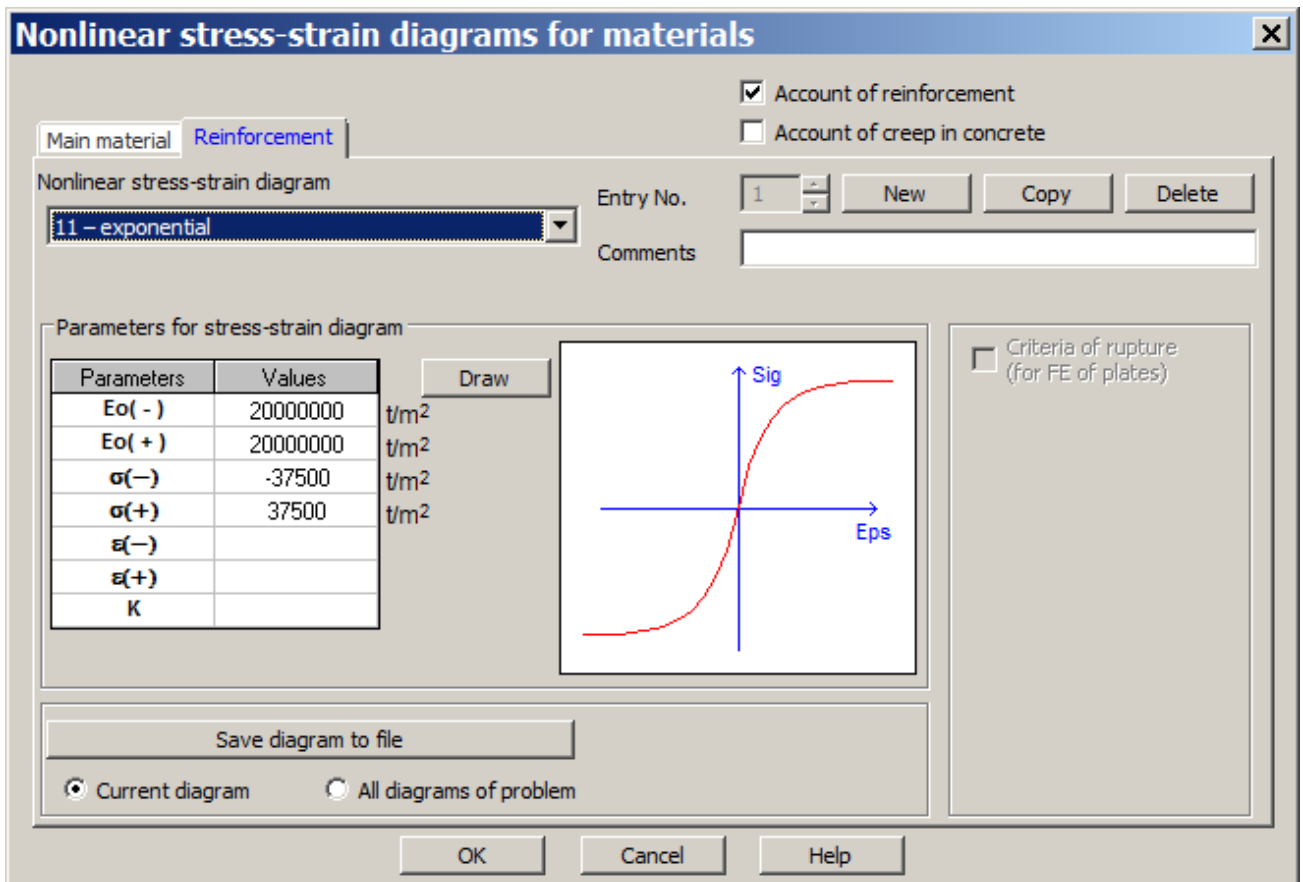

Figure 16.8 Nonlinear stress-strain diagrams for materials dialog box for reinforcement
- ⇒ In the same dialog box, click **Account of reinforcement** (see Fig.16.8) and select the **Reinforcement** tab.